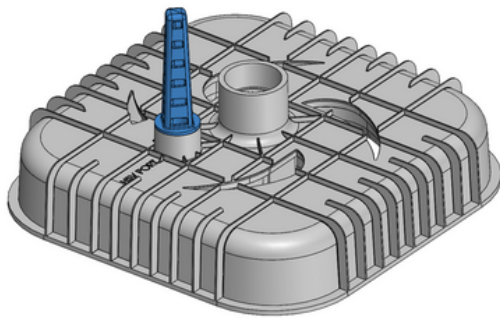

Figure 5
- a. Hydrostatic Valve Well Point:** If this drain includes the Hydrostatic Valve, the well point must be glued into the HSV port on the bottom of the drain. (See Figure 5).